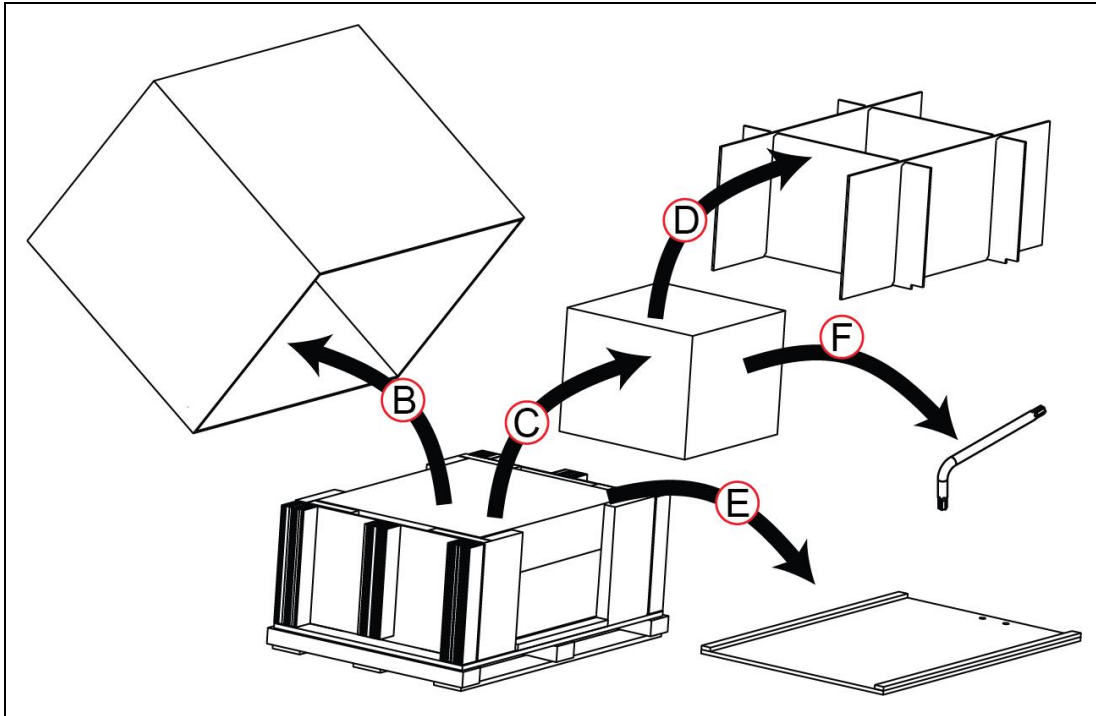

Figure 3-3 Unpacking the Docking Station and Accessories
1. Referring to Figure 3-3, lift the main carton (A) upward and off the pallet.
2. Remove any other accessories or options included in the filler (D). Locate one of the included accessories, a T30 Torx driver (F), which you will need later to move the LD-250.
3. Remove the filler (D) and carton (C) containing the docking station, and then lift the filler off the carton.
3. Referring to Figure 3-3, Remove the protective filler (A) from each end of the pallet.
4. Remove the four foam corners (B).
5. Remove the corrugated fiberboard cover from the LD-250 (C). There is padding underneath to protect the top surface of the LD-250.
6. Remove the padded wrapping (D) from the LD-250.
7. Place the ramp in the end of the pallet, so that the two bolts in the pallet engage with the holes in the ramp (E).